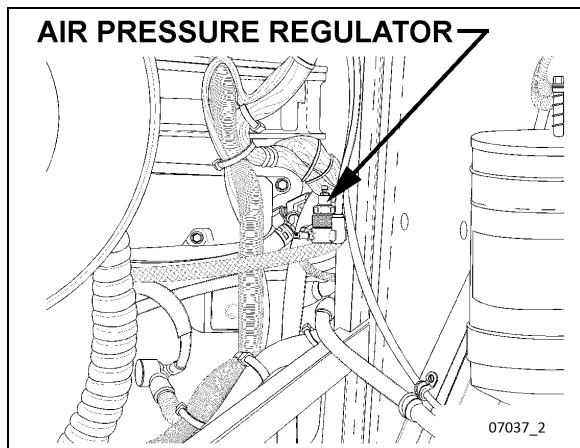

FIGURE 9: AIR PRESSURE REGULATOR (TYPICAL)
18. Adjust the retarder pressure to 80 ± 3 psi with the air pressure regulator. For more information refer to Section 12, "BRAKE AND AIR SYSTEM", under heading "AIR PRESSURE REGULATOR". The air pressure regulator is located at back of engine compartment, on R.H. side (Figure 9) or in the R.H. side rear service compartment.